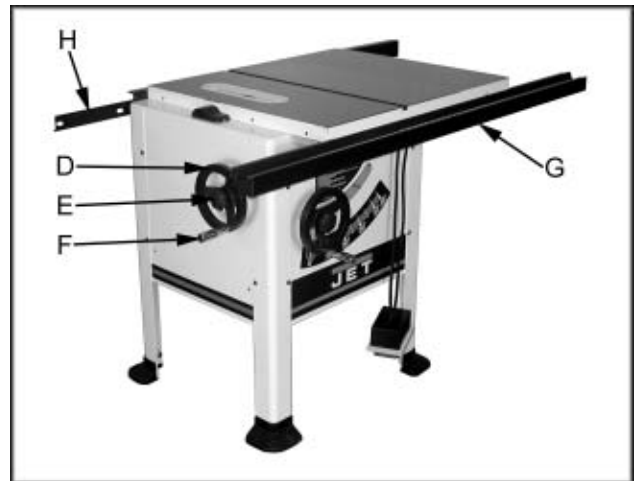

Fig. 4
- **Hardware:** (2) Handles, (2) Handwheels & (2) Lock Knobs
1. Line up the spring pin on the shaft with the slot in the handwheel and slide the handwheel (D, Fig. 4) onto the shaft.
2. Thread center lock knobs (E, Fig. 4) into the shaft. **Note:** The knobs will allow you to lock the blade into a certain height, or angle.
3. Thread the handles (F, Fig. 4) into the handwheels and tighten with a wrench.
- **Hardware:** Front Rail, Rear Rail, (4) M8x16 Hex Socket Button Screws
1. Mount front rail (G, Fig. 4) to the underside of table with two hex socket button screws.
2. Mount rear rail (H, Fig. 4) to the backside of table with two hex socket button screws.